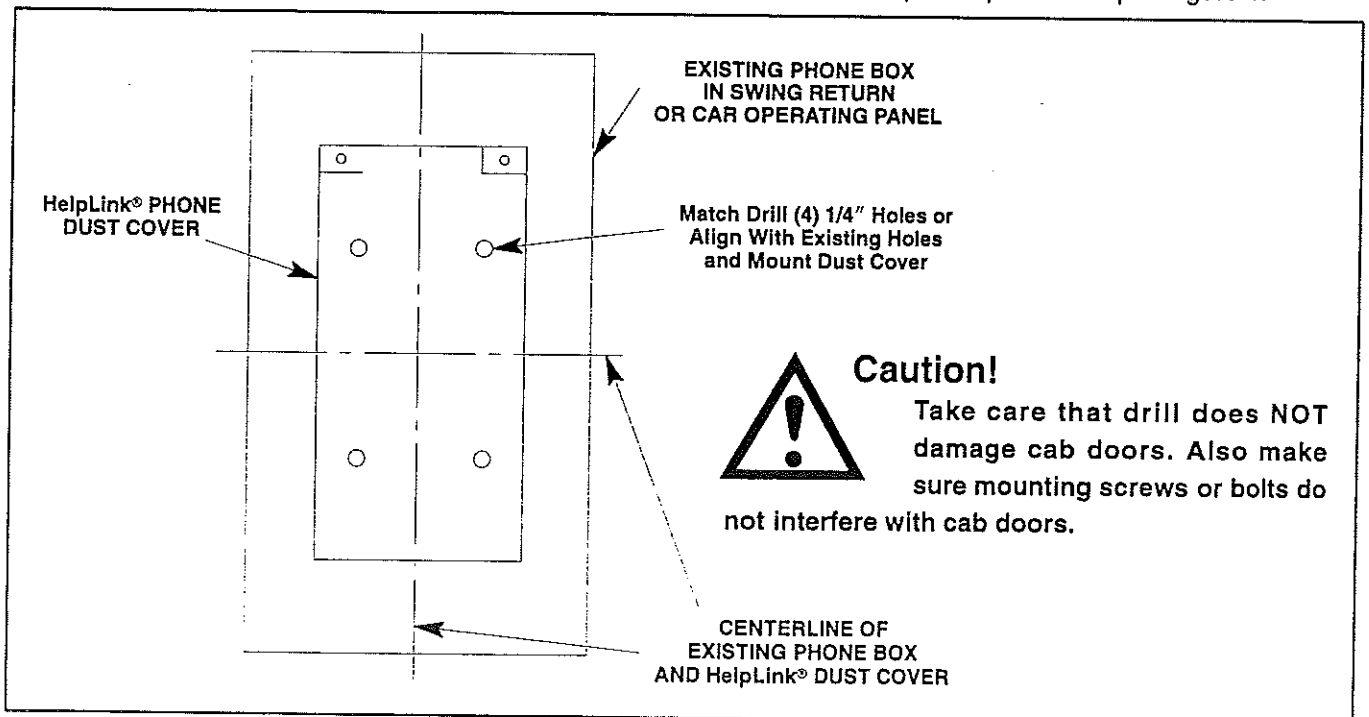

Figure 1
2. Mount HelpLink® phone box per Figure 1.